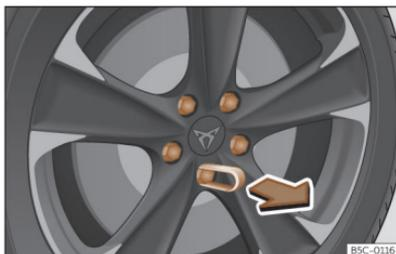

Fig. 198 Wheel: wheel bolts with caps.
- Fit the plastic clip (vehicle tools >>> **Fig. 177**) over the cap until it clicks into place >>> **Fig. 198**.